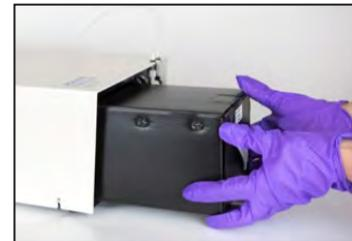

Figure 4.4 Proper reagent installation technique
4. Point the fitments downward to remove air from inside the fitments, and gently slide the pack into the ESM pack bay until secure (Fig. 4.4). You should feel some resistance as the needle fitments at the back of the pack engage with the needle shrouds at the rear of the pack bay. Continue pushing until the face of the pack sits behind the bottom lip of the reagent pack bay. It should not sit flush with the front of the ESM.